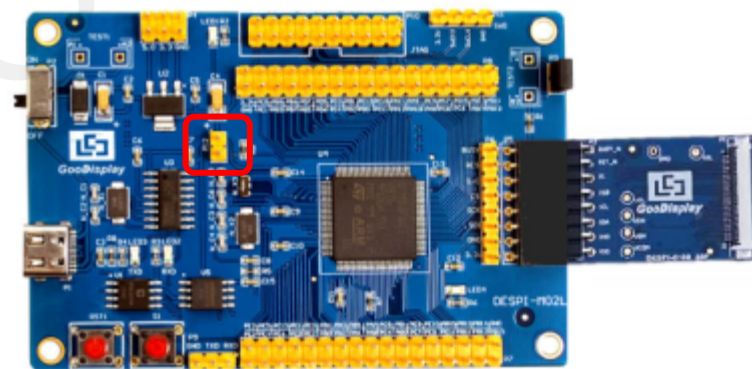

Figure 17 : The position of P12
- 3) Connect P12 with a short-circuit jumper, the position of P12 is shown in Figure 17.